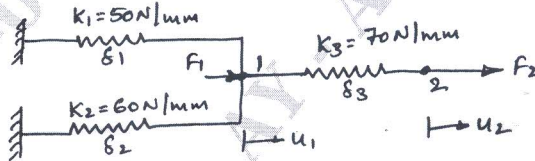

Fig.Q1(b)
- b. For the spring system shown in Fig.Q1(b), using principle of minimum potential energy, determine the nodal displacements. Take $F_1 = 75\text{N}$, $F_2 = 100\text{N}$.